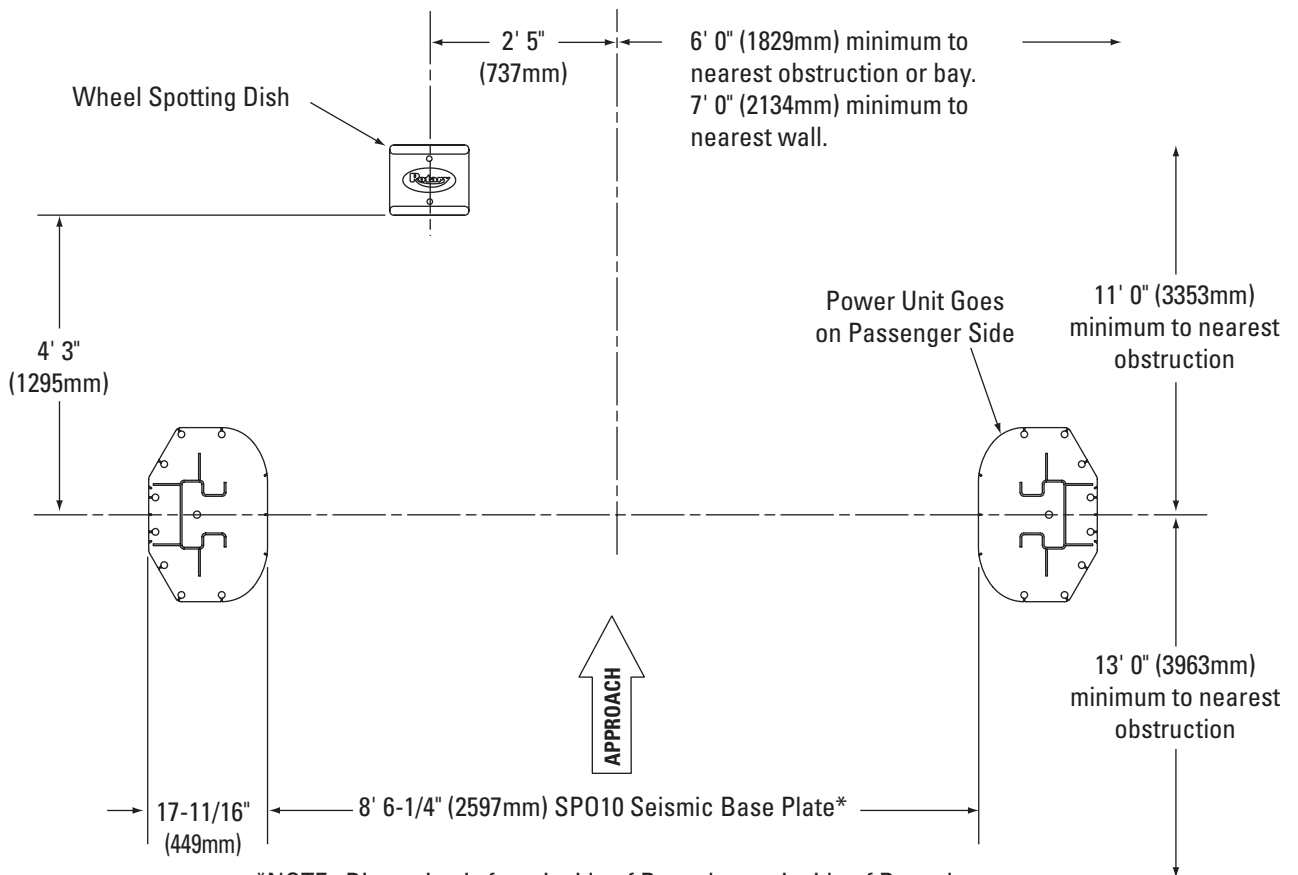

Fig. 1d
1. Lift Location: Use architects plan when available to locate lift. Fig. 1a, Fig. 1b, Fig. 1c, Fig. 1d, shows dimensions of a typical bay layout.